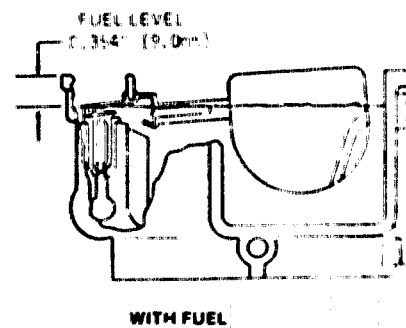

FIGURE 3.
4. Place carburetor top on bowl and fasten, turn fuel supply on and crank engine for 45 seconds (This must be done in 15 second intervals-allow starter to cool for one minute after each 15 second cranking interval). Remove carburetor top to make sure carburetor bowl is full. Measure fuel level in carburetor bowl as shown in Figure 3.